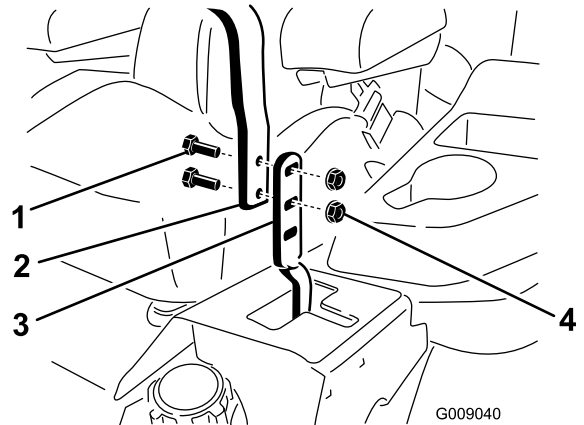

Figure 66
3. Loosen the bolts and flange nuts installed in the levers (Figure 66).